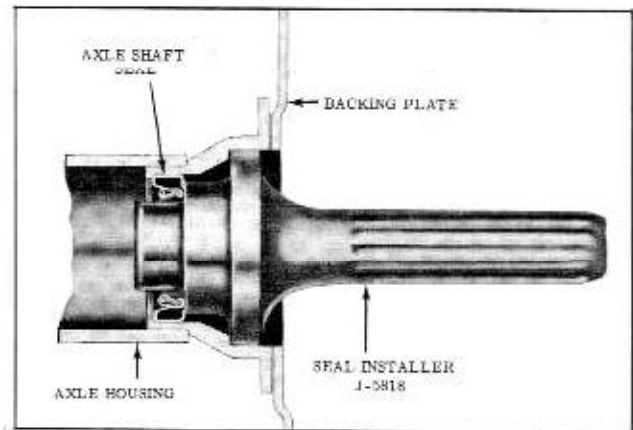

Fig. 5-27 Installing Rear Oil Seal
2. Position seal into axle housing. Drive seal into housing with Tool J-5818 until seal is fully seated. (Fig. 5-27)